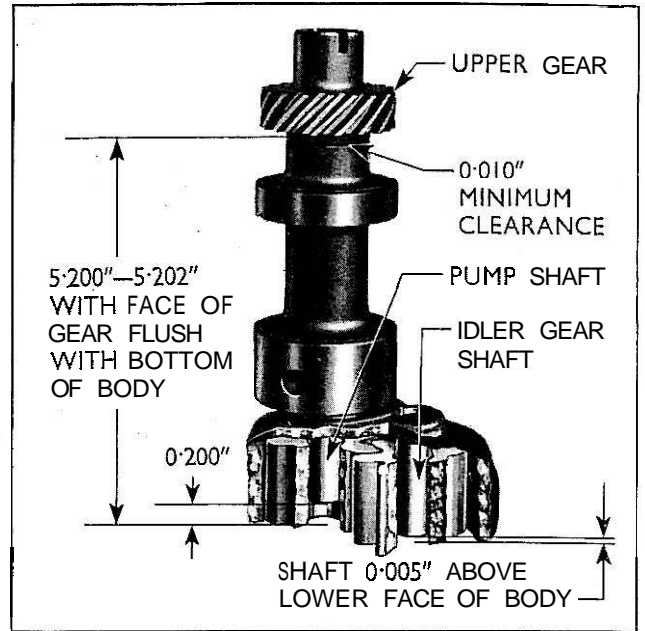

Fig. 81
- 1 Press the idler gear shaft (if removed) into the body so that there is 0.005 in. clearance between the end of the shaft and the face of the pump body, using a straight edge and feeler gauge to check this clearance. (See Fig. 81.)
- 2 Press the lower gear on to the pump shaft so that the end of the shaft is 0.2 in. from the lower face of the gear as shown in Fig. 81. A suitable distance piece 0.2 in. thick and approximately 0.4 in. diameter can be used for this purpose.
- 3 Enter the gear and shaft in the pump body and stand the assembly on a flat surface, inserting the 0.2 in. thick distance piece in the centre of the gear to maintain the clearance. Press the upper gear onto the shaft until its lower face (not hub) is between 5.200 ins. and 5.202 ins. above the lower face of the pump body (see Fig. 81). This will give a minimum clearance of 0.010 in. between the lower face of the upper gear hub and the top of the pump body.